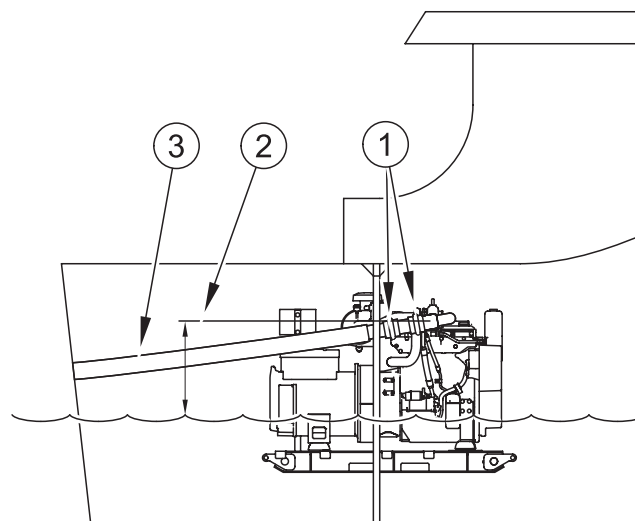

Figure 22
Due consideration must be given to providing flexibility in the exhaust hose, particularly if the engine is flexibly mounted. Where the exhaust hose must pass through a bulkhead immediately behind the engine it is preferable that the arrangement shown in figure 22 is adopted, using rubber bellows (1) to provide flexibility.